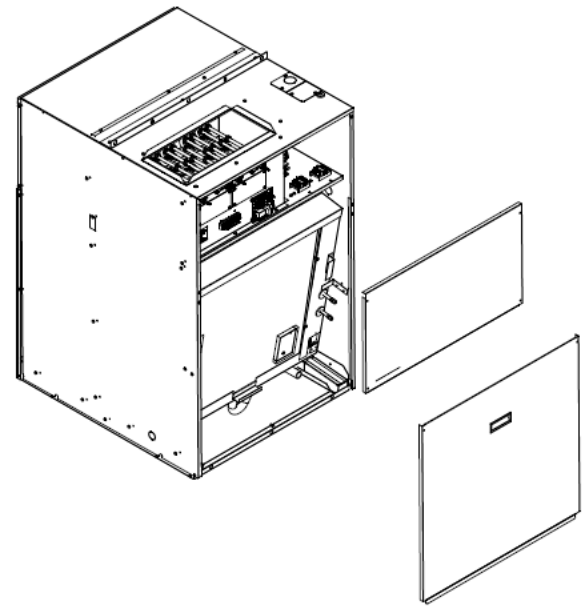

FIGURE 30 – Removal of Front Panels
- 2) Remove screws (4) from front top panel and screws (2) from filter access panel. Remove both panels from unit. Refer to **FIGURE 30 – Removal of Front Panels**.